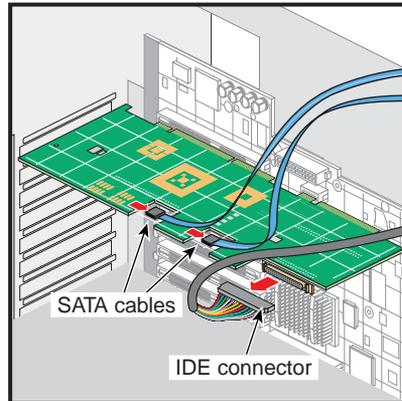

Figure 3-16 Disconnecting the Cables and Retention Strap
1. Disconnect the SATA and IDE cables from the base I/O board. Then loosen the PCI retention strap (see Figure 3-16).